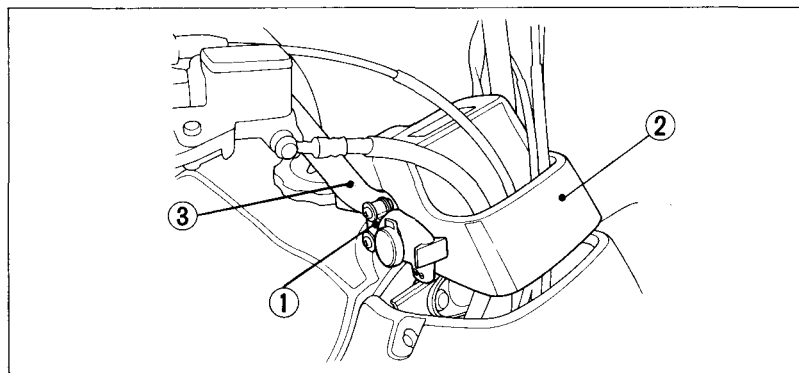

Fig. 2-24
The DC receptacle (Fig. 2-24) is attached to the right handlebar, near the handlebar cover (2). The receptacle provides 12 V DC power at a maximum of 180 watts (15 amps). If you exceed this limit, you may blow the fuse. (For information on fuses, and how to replace a fuse, see pages 113–114.)